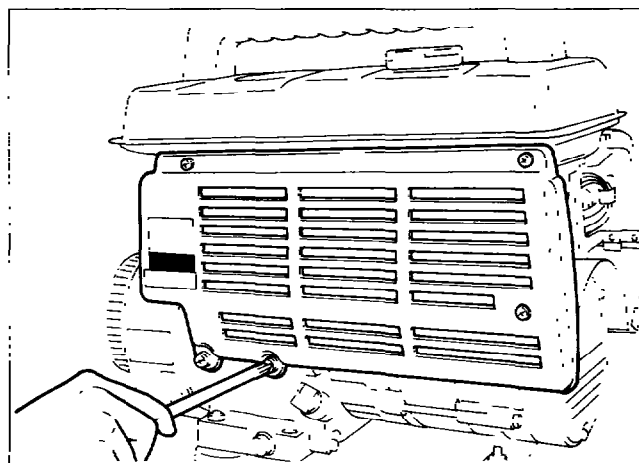

Fig. 10-2
| 2. | Rear cover | (1) Remove the rear cover by unscrewing three M5 × 8 screws and two M8 × 10 screws. (See Fig. 10-2.) | | (+) Plus driver |